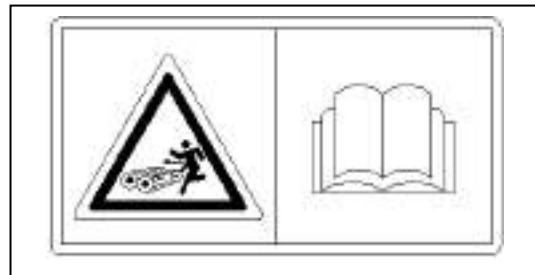

Figure 1-9 Precautions on adjusting the track tension
(8) Precautions on adjusting the track tension, as shown in Figure 1-9.